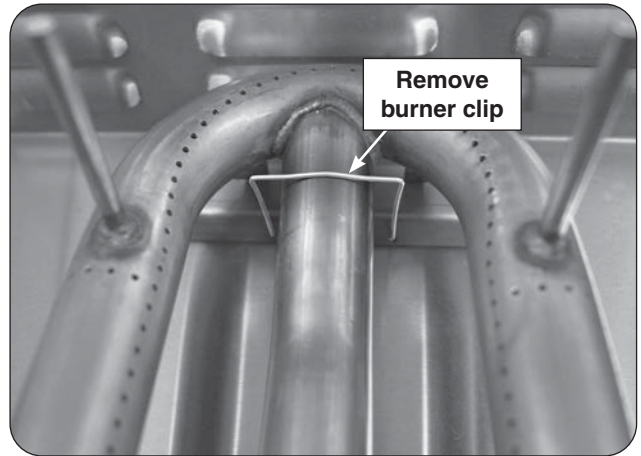

Fig. 28-1 Main burner removal
2. Locate the burner clip (located over the rear center tube of the burner) and slightly pinch and remove the clip from the burner support. See Fig. 28-1.